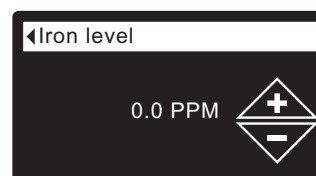

FIG. 53
5. Press the SELECT (O) button to display the Iron level screen (See Figure 53).